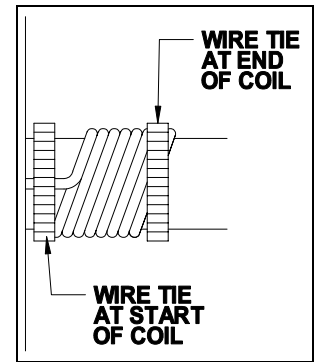

Figure 3
The antenna wrap around the water pipe on each end of the ClearWave™ (see Figure 1). A minimum of seven fully wrapped coils of the antenna wire, with each coil wrapped tightly against the pipe and pressed snugly against each other is required for best results (see Figure 3). The operation of the ClearWave™ and the antenna installation is not based on direction of water flow, but one antenna MUST be wrapped in a clockwise direction and the other wrapped in a anti- clockwise direction.
1. First, wrap the antenna onto the water pipe by securing the right antenna to the water pipe next to the ClearWave™ housing with a wire tie. Wrap the right antenna clockwise (over the top of the pipe first), keeping the antenna wire tight against the pipe and the preceding coil. Secure the end of the right antenna wire to the water pipe with a wire tie (see Figure 3).